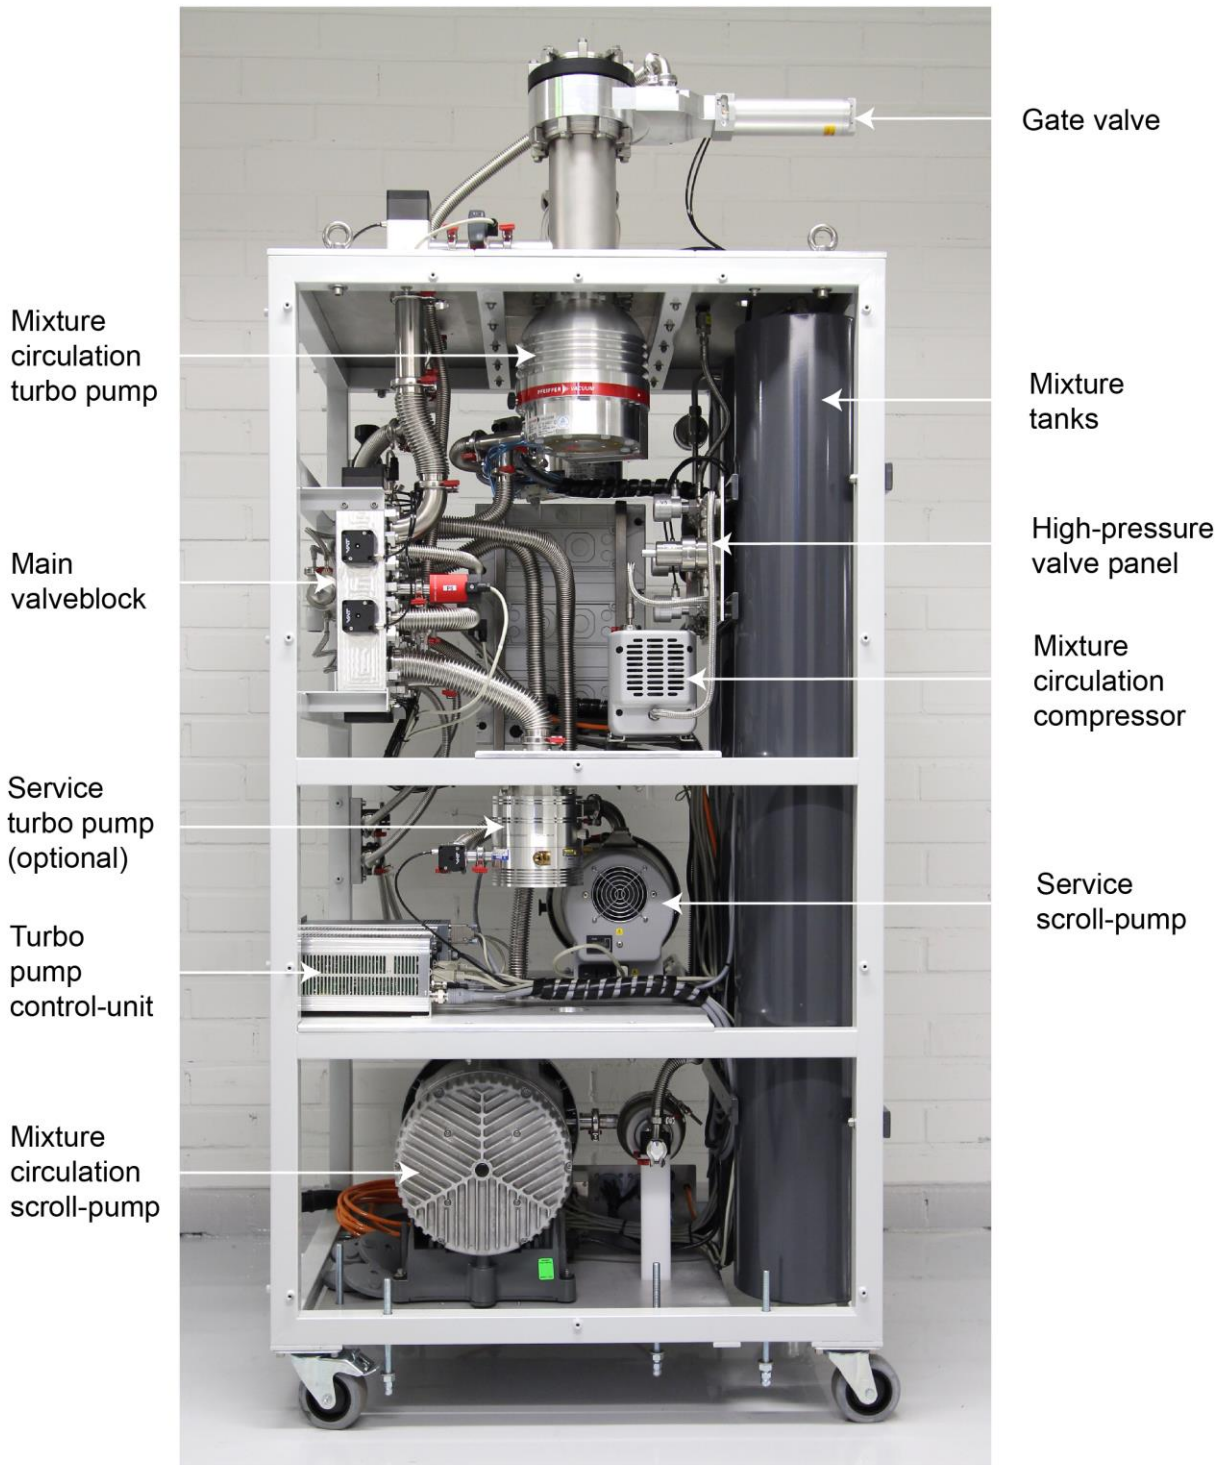
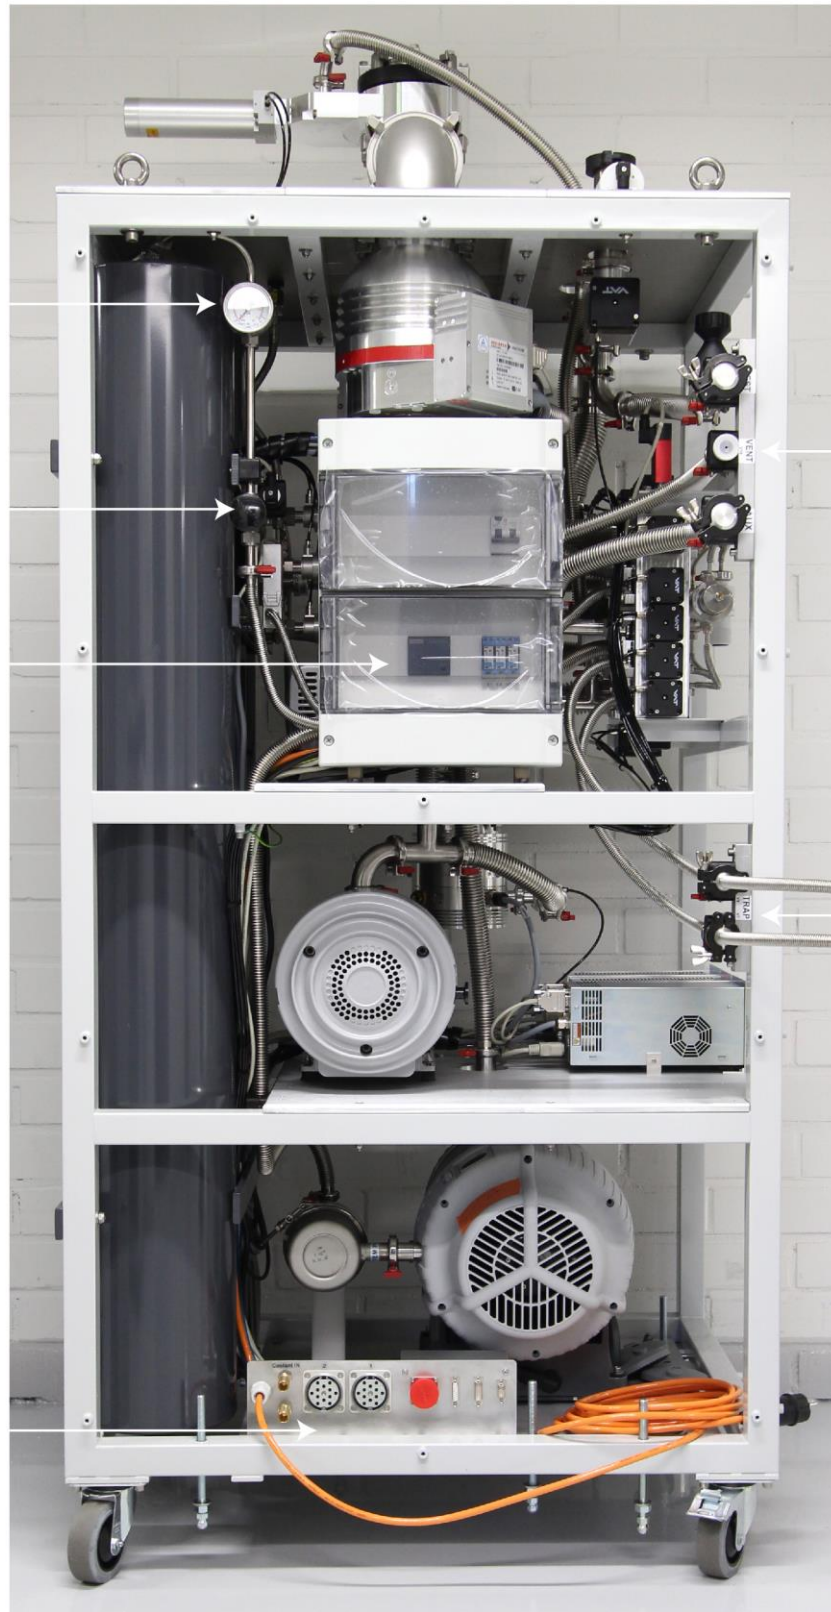

Figure 5. Gas handling system (GHS) main components.
Figure 6. GHS main components.
The GHS of the BF-LD-series system is contained in a single cabinet (see Figure 5, Figure 6). It contains all pumps, pumping lines, valves, pressure gauges, etc, which are necessary to operate the entire system. Because of acoustic noise this unit is preferably placed in a separate room from the cryostat, together with the Cryomech pulse tube compressor. The flow diagram of the GHS is shown in Attachment 7.1. As outlined in the diagram, it basically consists of two halves; the **main circulation circuit** and the **service manifold**. These two halves can be interconnected at different stages through valves *V15*, *V17* and *V18*.
To save space and reduce the chance of leaks, the bulk part of the interconnecting tubes and vacuum valves are integrated in a single aluminum block, custom developed in cooperation with VAT Vacuum Valves AG (see Main valve block in Figure 5). All the valve actuators on this manifold are standard VAT parts which in the unlikely case of a failure can be easily and quickly replaced.
The commonly used vacuum access ports are located on the left-hand side of the GHS, these ports include (see Figure 6):
- All valves in the DR circulation are closed and that there is no pumping path to the mixture tank. **The safest option is to have the manual valve on the mixture tank closed** (see Figure 18 and Figure 6). **It is recommended to always keep the manual mixture tank valve closed when the system is not running.**